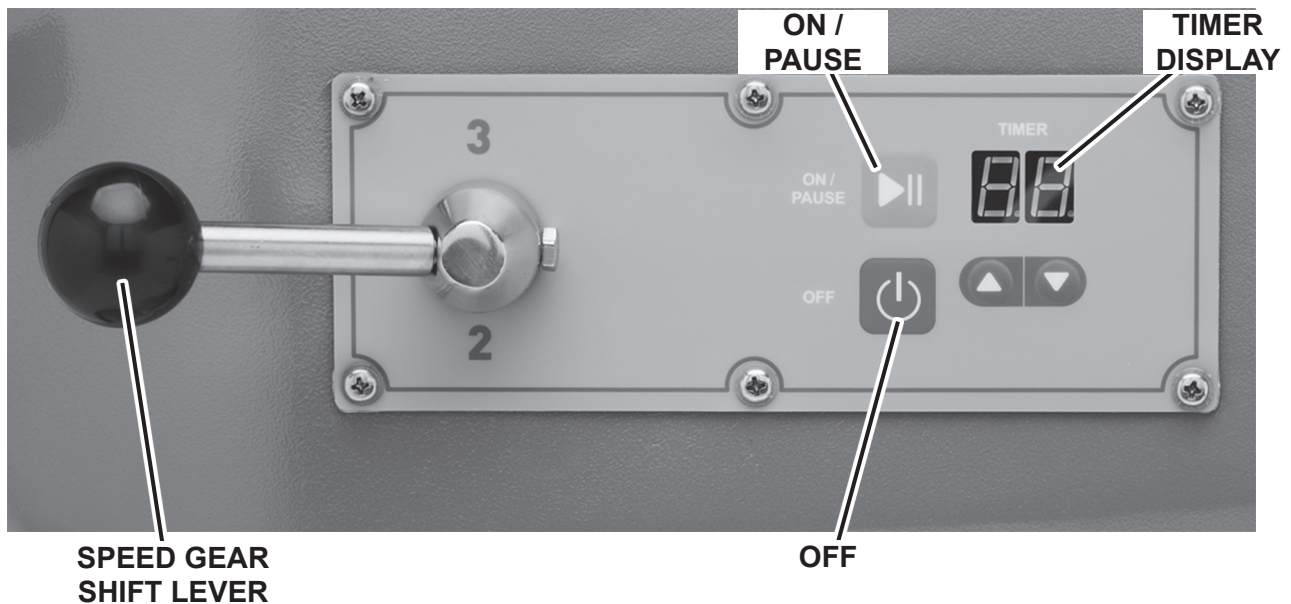

Fig. 6
1. Turn the speed gear shift lever (Fig. 6) to select a mix speed. The timer display reads 00.
2. Press the ON/PAUSE button (Fig. 6) to begin mixing. The timer display reads 00.
5. Press the OFF button (Fig. 6) to stop the mixing operation and the timer will reset, nothing will show on the display.